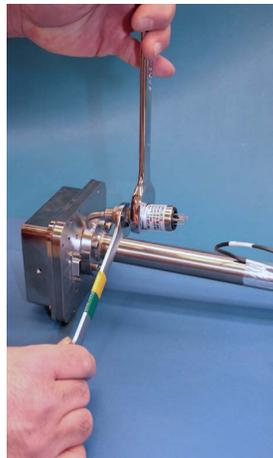

Figure B-6 Removing the old pressure sensor
- 13.** Using a 9/16 in. wrench, secure the flange while using a 7/8 in. wrench to remove the old pressure sensor (refer to Figure B-6).